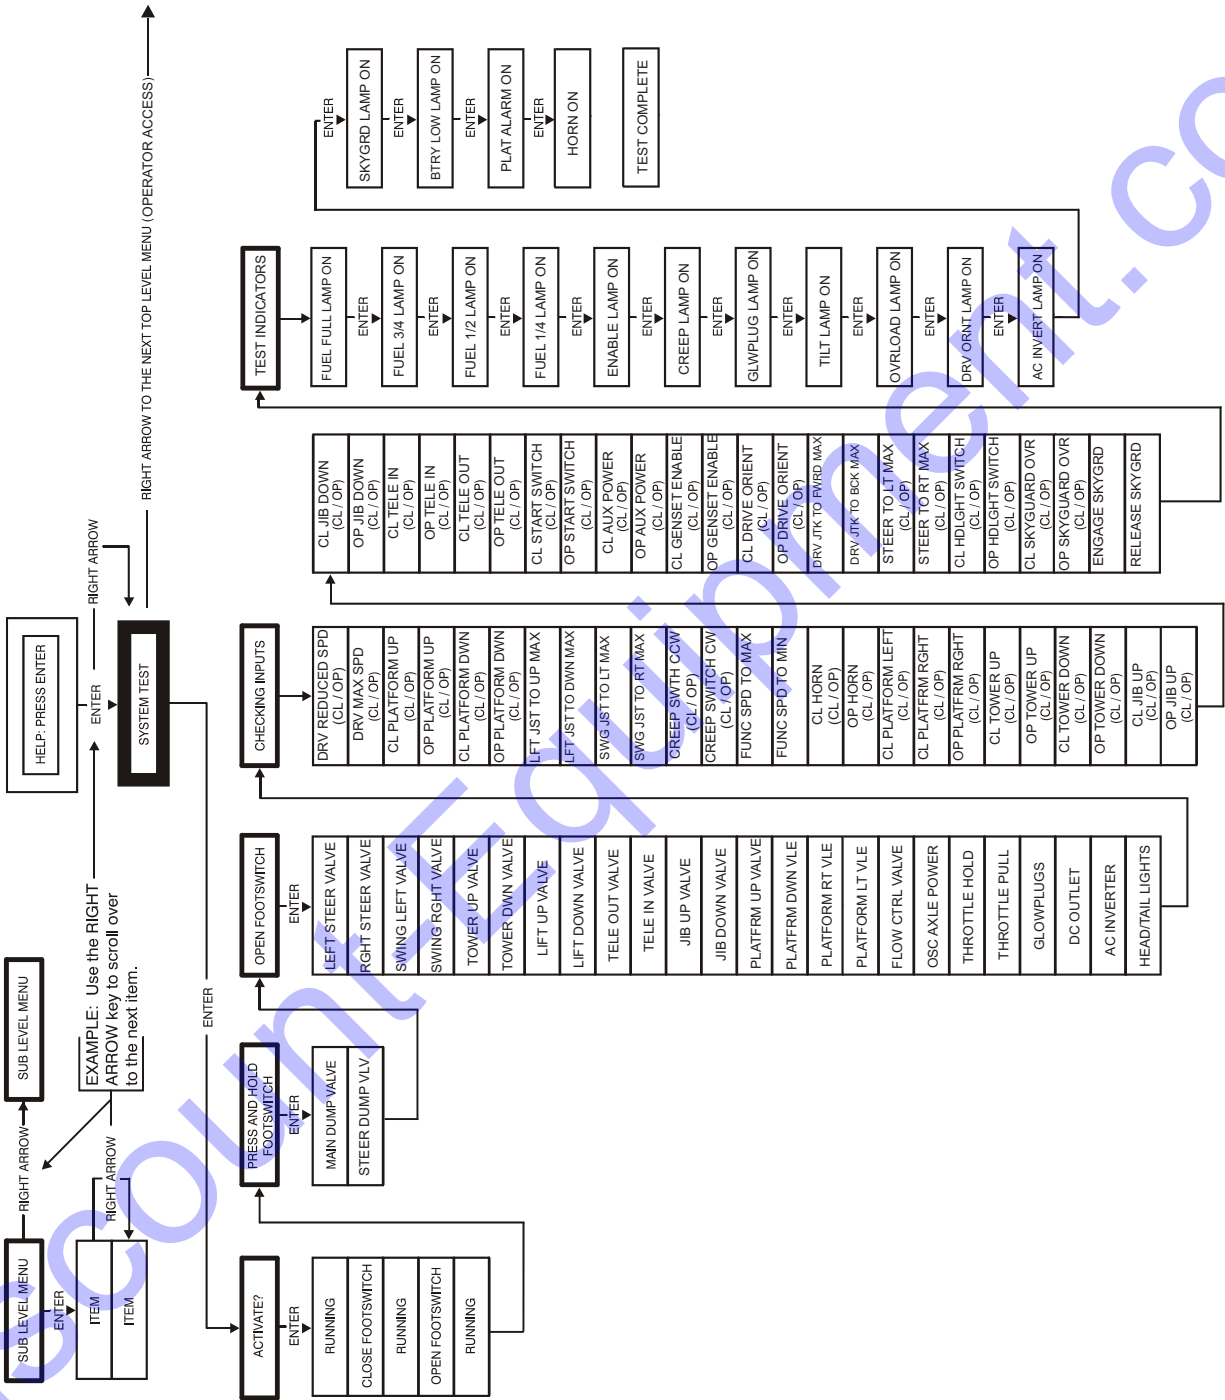

Figure 6-23. System Test Flow Chart- Platform Tests
7. Follow the flow path in Figure 6-23., System Test Flow Chart - Platform Tests and go through the component tests. Hit the ESC key during any part of the test to return to the main menu without completing all tests or wait until all tests are complete. During the TEST ALL INPUTS sequence, the analyzer allows control switches to be operated and shows if they are closed (CL) or open (OP).